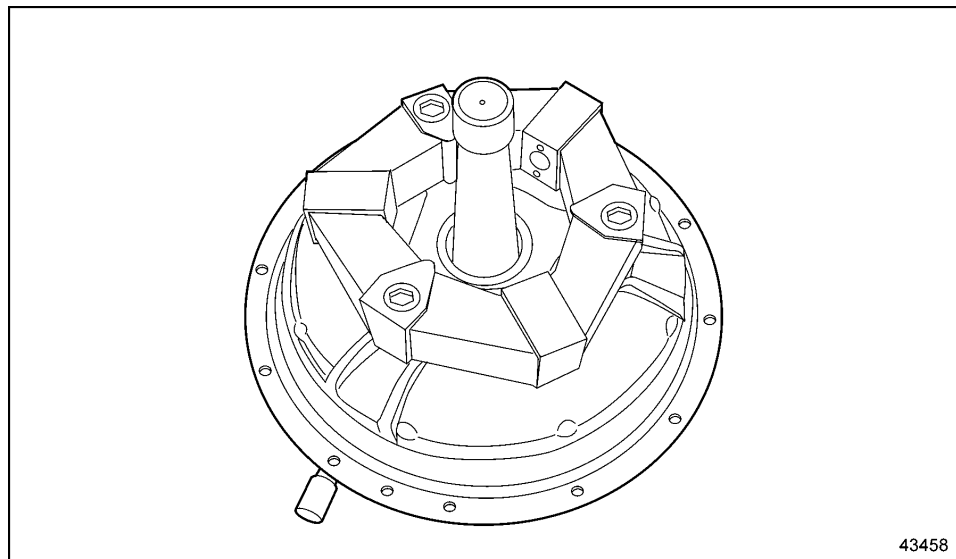

Figure 4 Install Adaptor Plate/Coupling onto PTO
9. Using the shaft bearing as a pilot, install the clutch adaptor plate and coupling onto the PTO assembly. See Figure 4.